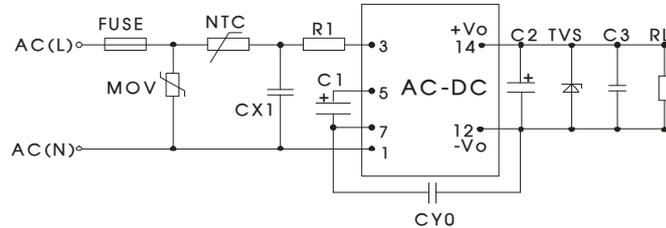

Fig. 1: Typical application circuit
- 2.It is necessary to add circuit to the output, such as the typical application of Figure 1.